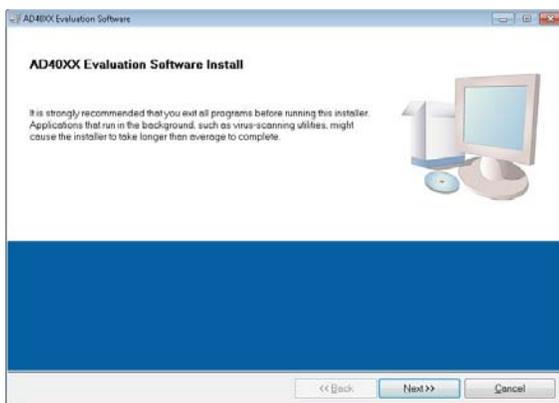

Figure 3. Evaluation Software Install
1. Launch the evaluation board software installation by clicking the **setup.exe** file. The software installation window opens, as shown in Figure 3.